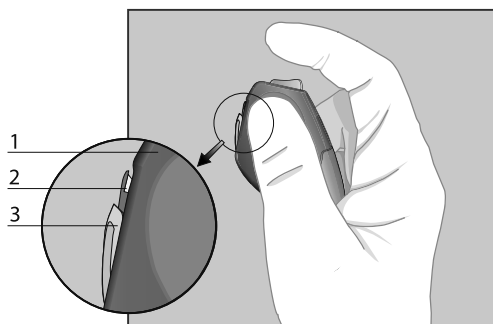

Fig. 1: Holding the slitter tool, clamp not open
- 1 Take the slitter tool in one hand, and the lead with the catheter that is to be removed in the other - see Figure 1.